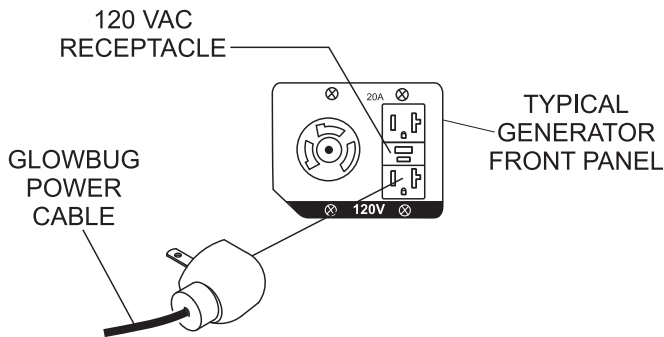

Figure 14. 120 VAC Receptacle
2. The GloBug has a power requirement of 120 VAC, 60 Hz @ 9.6 amps. Connect the GloBug's AC power cord to the 120 VAC twist-lock receptacle (Figure 14) on the the supplied generator.